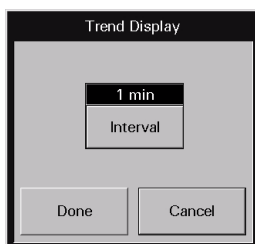

FIGURE 5-30 Trend Display Dialog Box
1. From the **Display** tab, select the **Trend Display** sidebar button. The Trend Display dialog box (shown in FIGURE 5-30) is displayed.